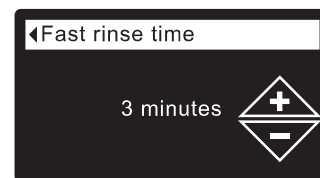

FIG. 134
- 8d. **Fast rinse time:** Press the UP (▲) or DOWN (▼) buttons to change the fast rinse time. Hold the button down to rapidly advance. The fast rinse time can be set from 1 to 30 minutes* (See Figure 134).